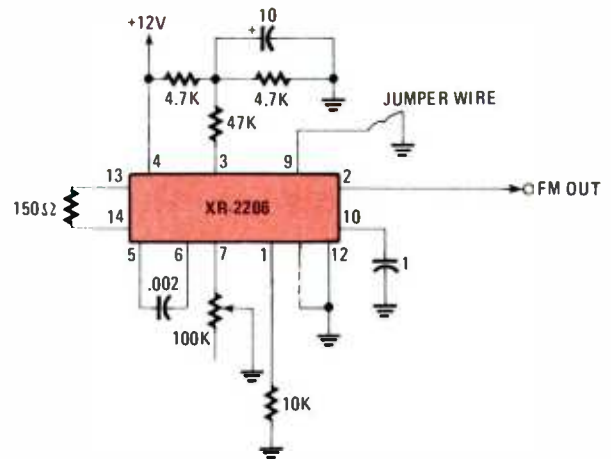

Fig. 23—Frequency-shift keying can be accomplished by touching pin 9 to ground. That shifts the frequency and the transition represents a logic high or low.
20. Turn off the power and modify your carrier 2206 circuit to conform to Fig. 23. Add the 10K resistor between pin 8 and ground. Remove the 100K resistor at pin 7 and the .1- μ F capacitor to the 1K potentiometer. Also disconnect pin 2 from the 565 circuit. Connect a jumper wire from pin 9 of the 2206 and ground.